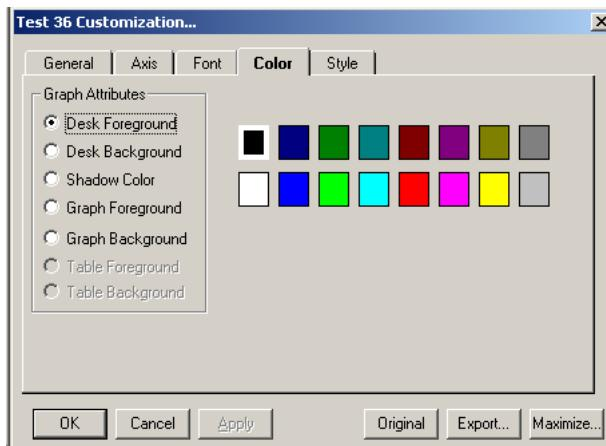

Figure 5-50. Customization Dialog Box—Color Tab
- **Color Tab**—Use the Color tab to define the various color parameters on the analysis graph. See Figure 5-50.